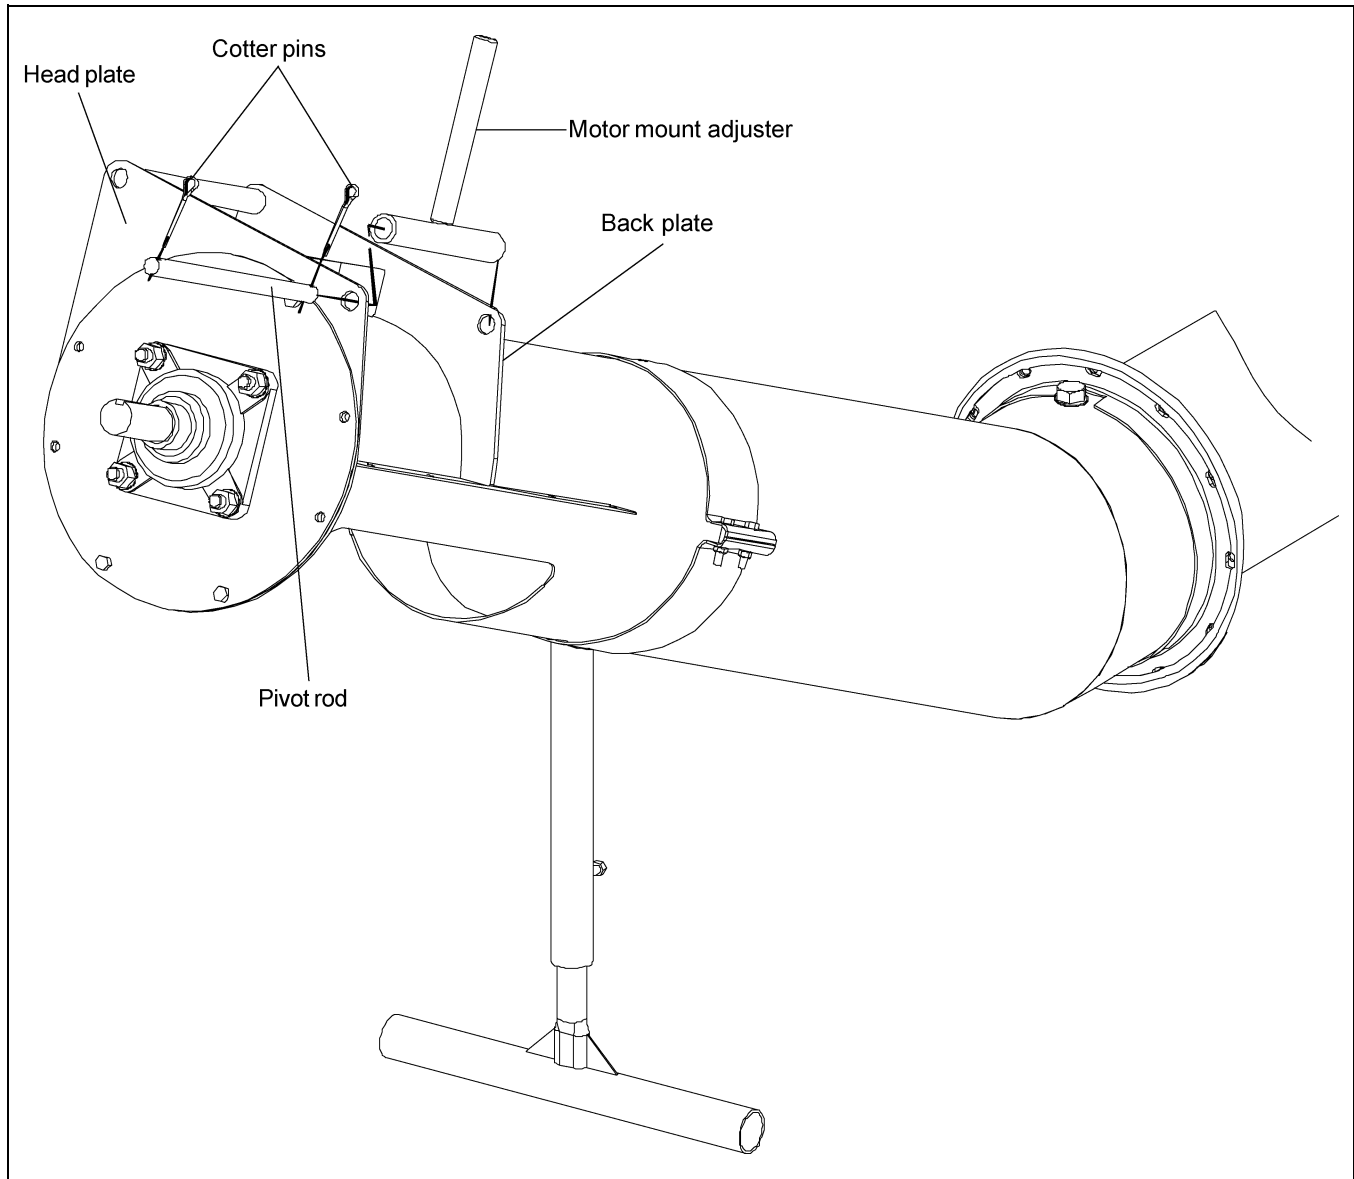

Figure 4E
2. Insert pivot rod through the tube plates and motor mount adjuster. Secure in place with two (2) 3/16" x 2" cotter pins. *(See Figure 4E.)*